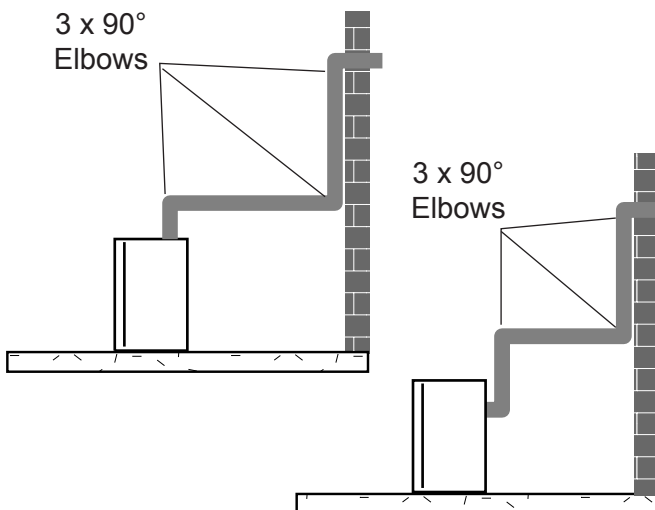

Figure 21 - Maximum Three (3) 90° Elbows Per Installation
- The maximum number of 90° elbows per side wall installation is three (3). *Figure 21*
- If a 90° elbow is used in the horizontal vent run (level height maintained) the horizontal vent length is reduced by 36". *Figures 21 and 22, Page 20.* This does not apply if the 90° elbows are used to increase or redirect a vertical rise. See *Figure 24.*